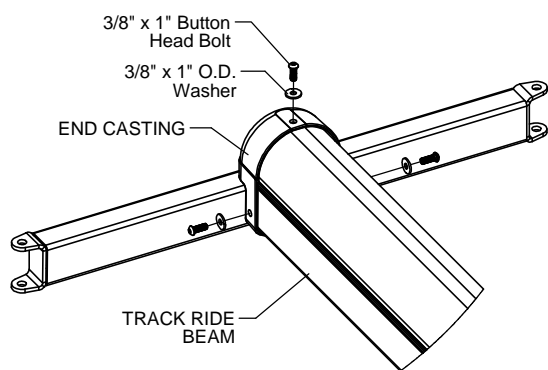

Figure 1.1
Using End Casting as a template, mark and drill (3) 25/64" holes into Track Ride Beam at each end. Attach Track Ride Beam to End Castings as shown in Figure 1.1. (See Note A)